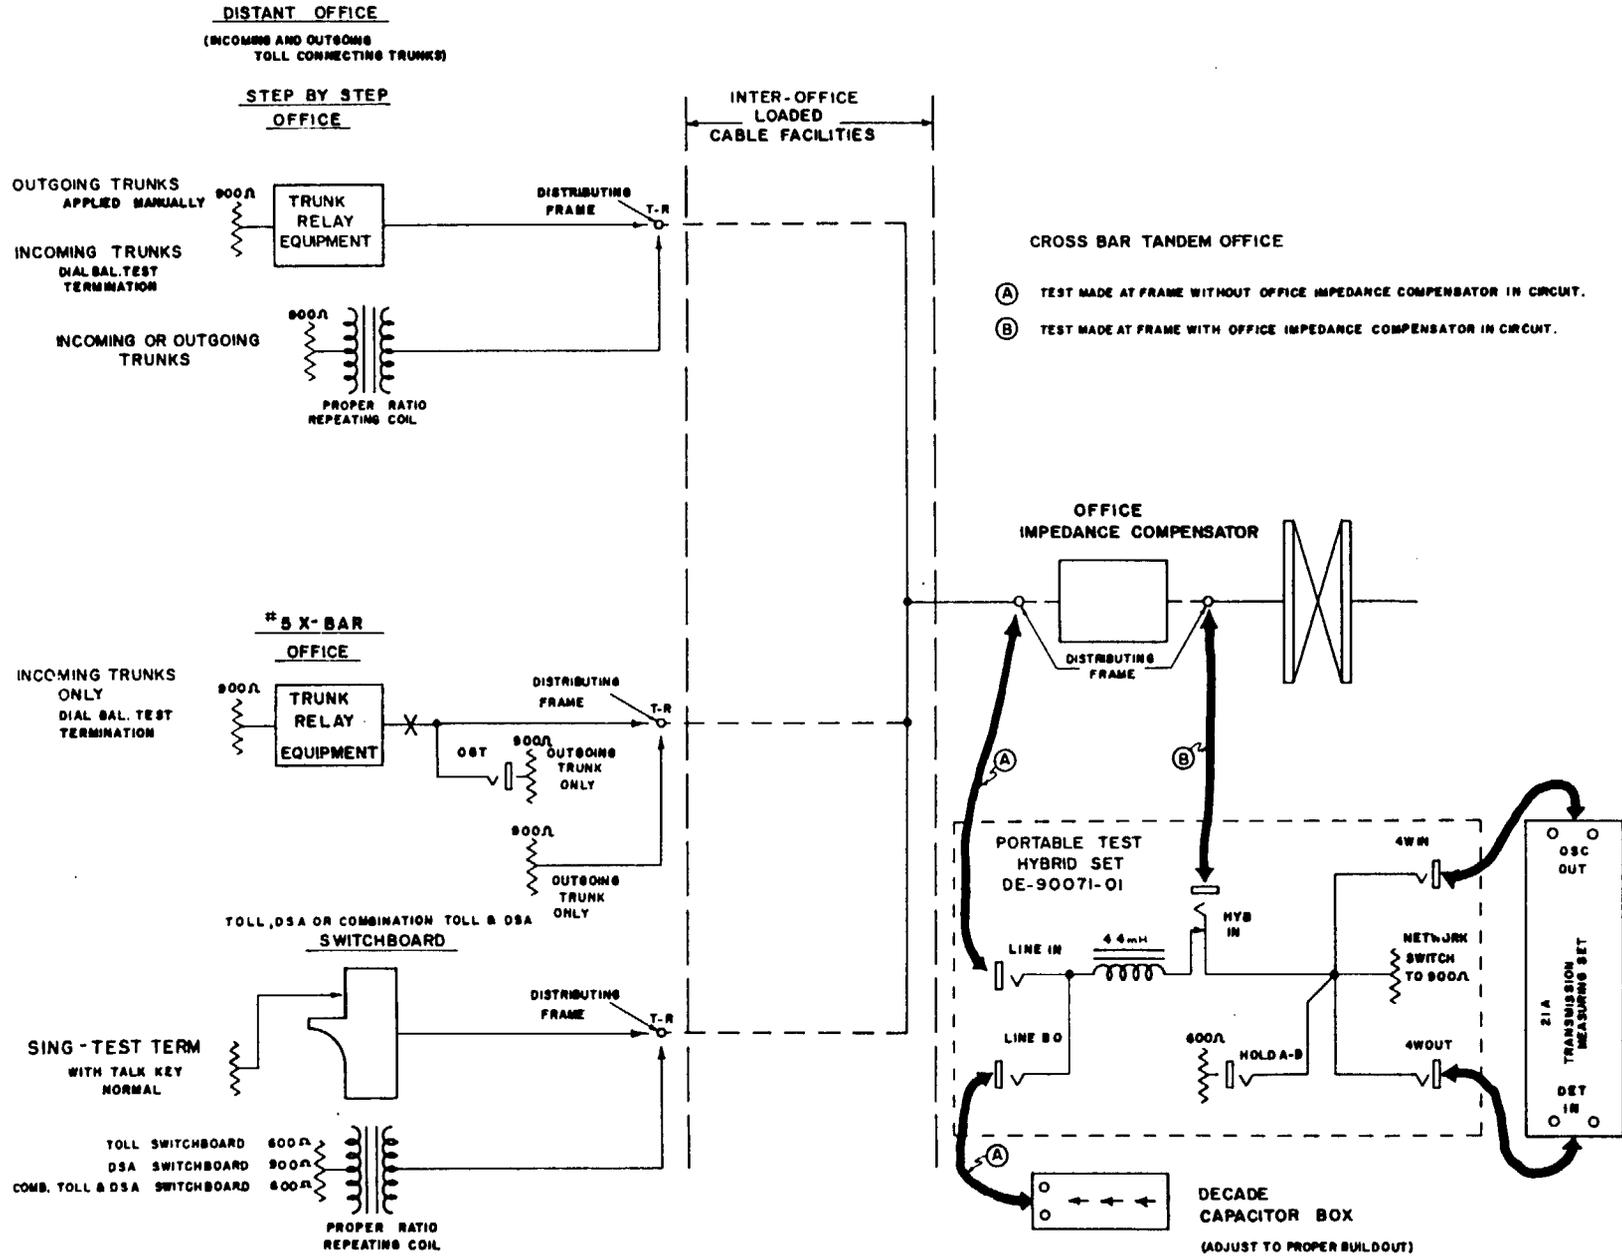

Figure 1 - Return Loss Tests - Test Equipment Arrangement
1.06 A sketch of the return loss test equipment arrangement at the distant office and the crossbar tandem office is shown in Figure 1.
(b) If test is made to the distributing frame in distant office, request the assistant to provide a test termination as follows: (See Figure 1)